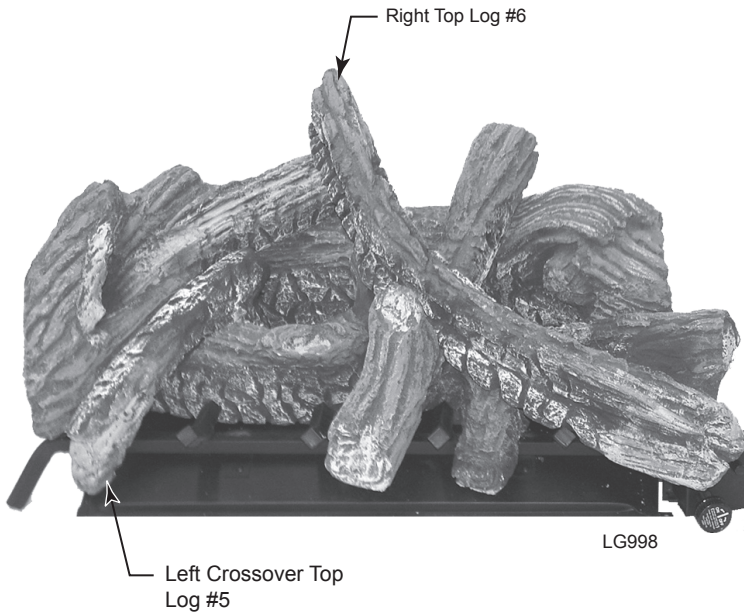

Figure 37
- 5. Place left top crossover log (#5) up against left top log. *Figure 37*
- 6. Rest right top log (#6) on center crossover log and front of grate. *Figure 37*